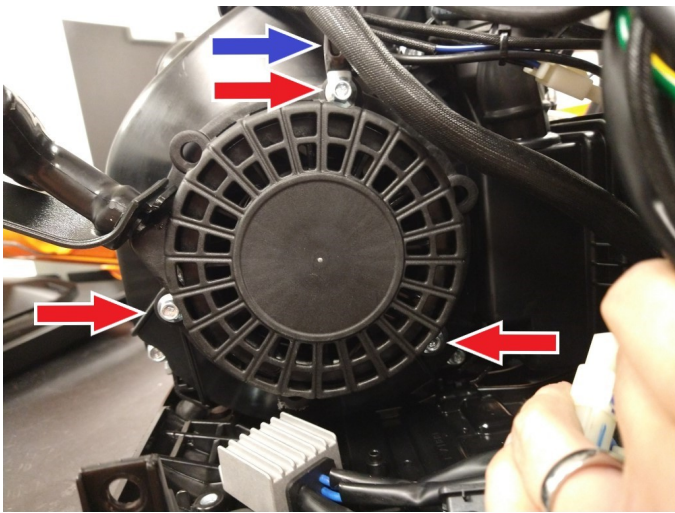
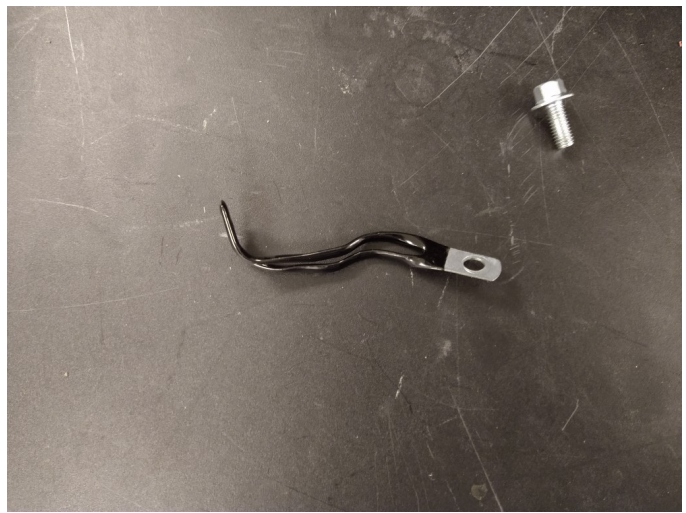
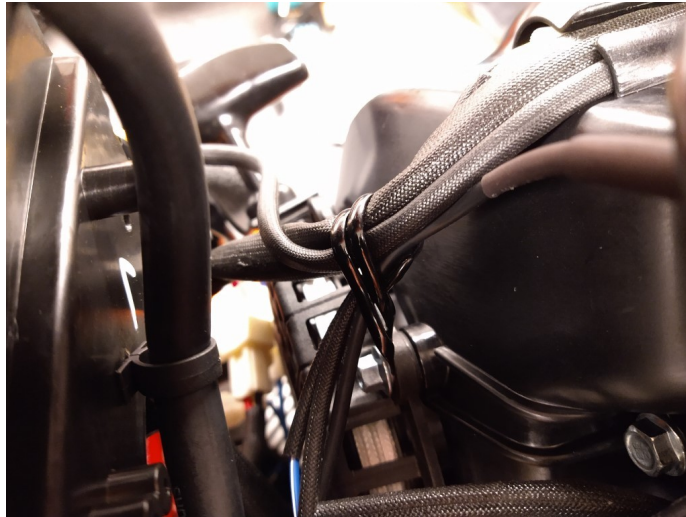

Fig. 13: Recoil starter mounting bolts (red); cable clamp (blue).
Fig. 14: Cable clamp removed.
Fig. 16: Cable clamp wrapped around wiring.
14. The recoil starter should now be easily accessible (Fig. 13). Note its orientation. Remove the 3 mounting bolts using the 8mm socket. As you remove the top mounting bolt, make sure not to lose the cable clamp (Fig. 14).
- Reassemble the recoil starter in the same orientation as before (shown in Fig. 13).
- Don't forget to reinstall the cable clamp (Figs. 13 & 14). Make sure to wrap it around the wiring harnesses as shown below in Fig. 16.